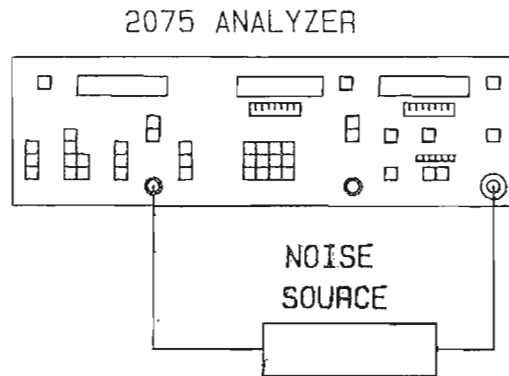

Figure 3-12a. TEST CONFIGURATION 5 CALIBRATION
Figures 3-12a and 3-12b are the connection diagrams for calibration and measurement when external relays are not used. An optional setup can be used where external relays, controlled by the 2075, provide the calibration path. (See Paragraph 3-34, page 3-75.)
1. Connect the test equipment as shown in the calibration setup of Figure 3-12a or the optional setup using external relays.